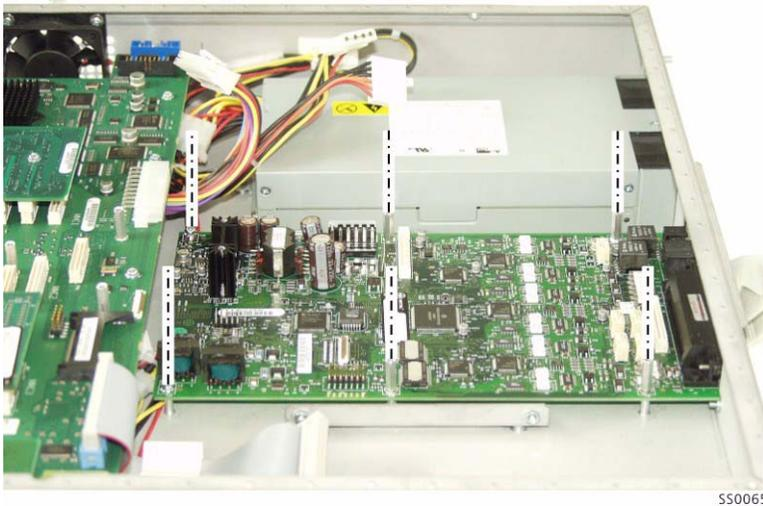

Figure 23: Screws and Standoffs on the Analog Main Board
6. Remove the four standoffs and the two screws at the front of the board (refer to Figure 23 on page 136).